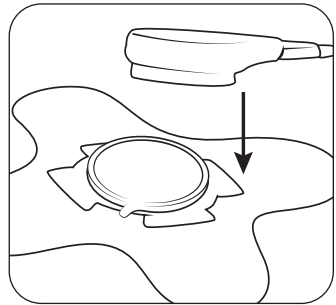

figure 9B: Attach Applicator
- B. While supporting the edges of the cup with your fingers, align the applicator, face down, above the cup and coupling media (Figure 9B).